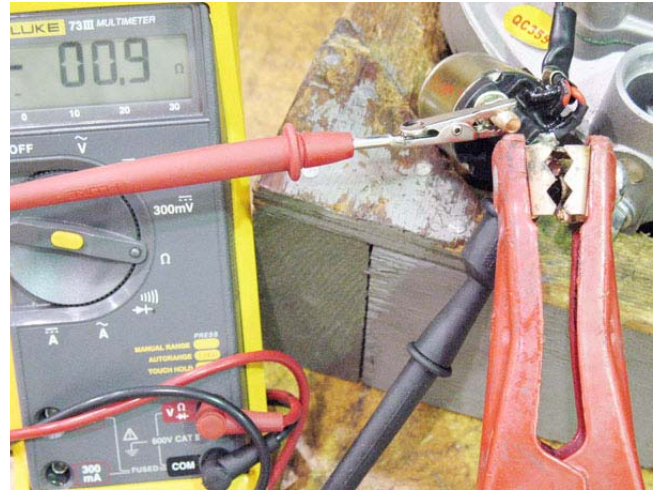

Figure 6.18
8. Reconnect the DMM with it still on the Ohms (Ω) scale. See Figure 6.18.